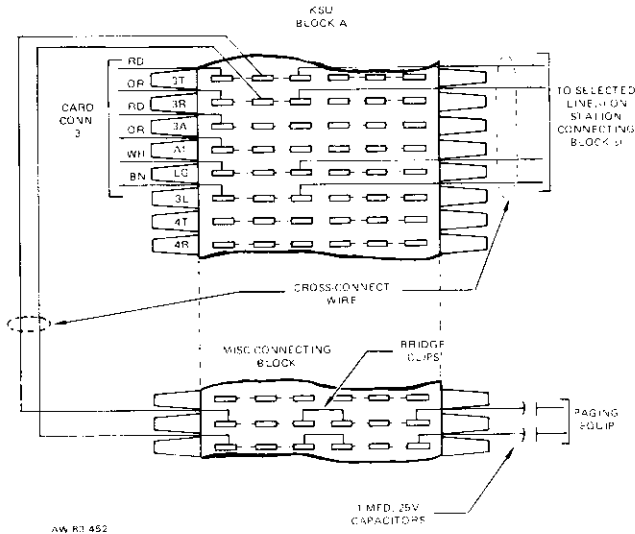

Figure 16: Connecting Details, Intercom KTU to Paging Equipment
- (1) Connect the T, R, L, and LG terminals to the T, R, L, and LG terminals of the selected line key on the assigned station connecting block. If required, multiple the leads to the line keys of any other assigned telephones. (Refer to Figure 16.)
- (2) Connect the T and R terminals to the MISC connecting block on the MDF for cross-connection to the paging amplifier.